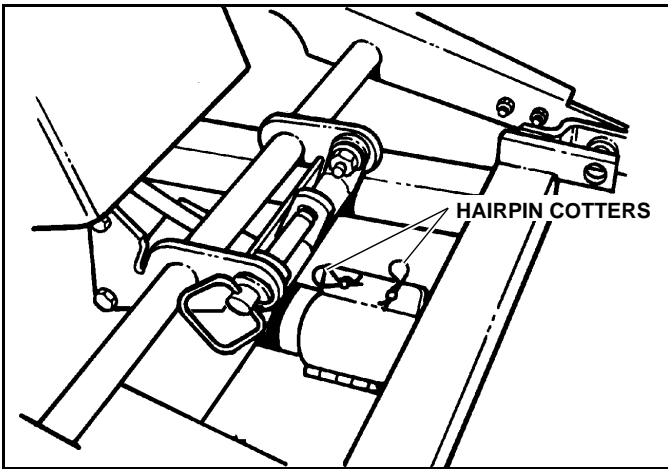

Figure 2-1
3. Remove the pivot pins from the cylinder lock clamp and spread it apart. (See Figure 2-1)